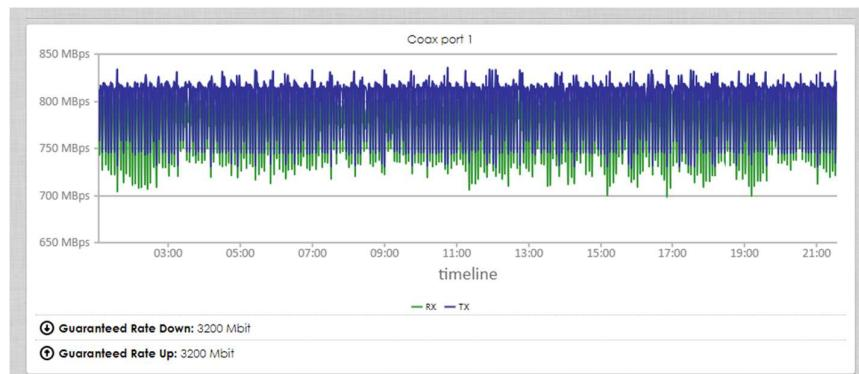

Figure 32 — Controller Statistics per coax port, RX/TX in Mbps.
- a. **CLC STATISTICS** for the *Controller* - see **Figure 32**.